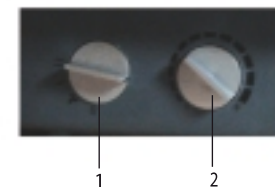

Fig. 5
The unit's control panel is on the side panel of the case (see fig.5).
2. Select the heating mode, comfortable for you, by setting the heating power regulator to one of the indicated positions (see Fig.5).
When activating the Antifreeze function, if the fan heater is switched on, then it will automatically start heating if room temperature drops to + 5 °C. To activate this function, you need to switch the thermostat handle to position "↙" (Fig.5).